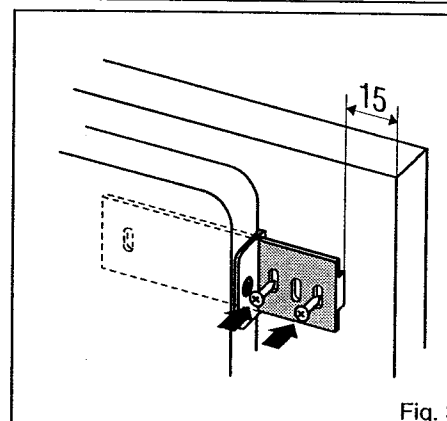

Fig. 3
- Insert the slides into the guides and fix them on the kitchen unit door some 15 mm from the edge, using the A 3,5 x 13 screws (Fig. 3).